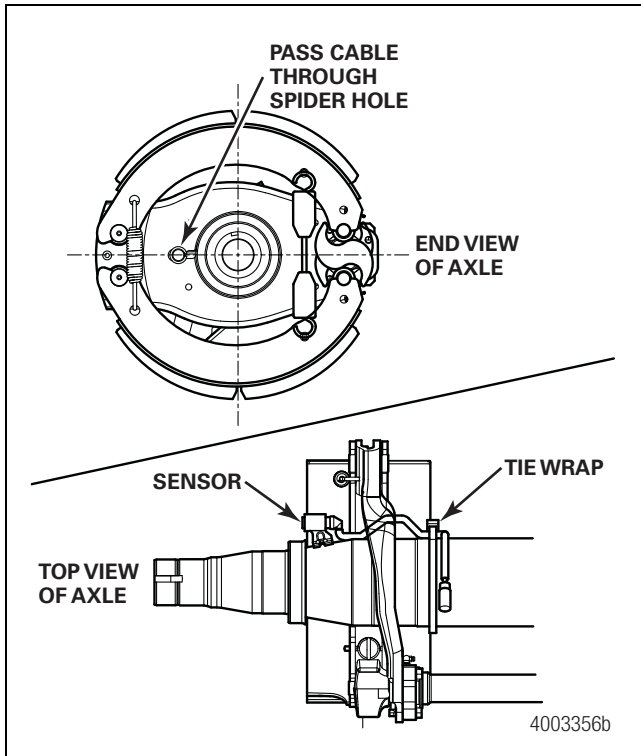

Figure 12.11
- If the sensor is to be located at the bottom of an axle, first route the sensor wire to the top of the axle within the brake cavity. Then route it through the brake equipment. Figure 12.11.
1. Current production cam brakes are built with a hole in the spider for routing the ABS wire. Figure 12.11.